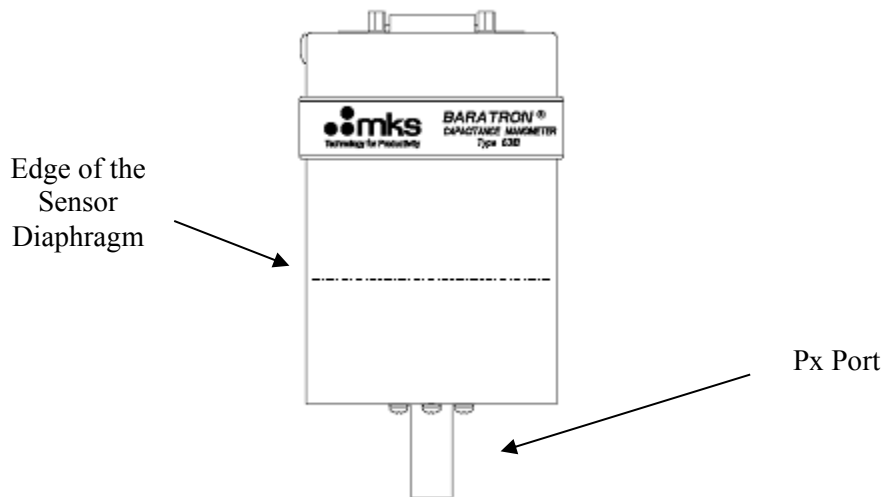

Figure 1: Recommended Orientation of the Type 631C Transducer
- Mount the Type 631C transducer components correctly: refer to Figure 1: Recommended Orientation of the Type 631C Transducer, page 26, for the recommended orientation of the sensor
The 631C transducer can be installed in any orientation as long as the inlet tube is not facing upwards. However, for best results, it is recommended that the Px port of the unit face downward (as shown in Figure 1) to reduce the chance of contaminants entering the device and degrading its performance. The sensor is zeroed at the factory in the vertical orientation (shown in Figure 1). You should zero the unit again after installation, following the steps in *How To Zero the Type 631C Transducer*, page 37.
If you anticipate vibration, orient the plane of the diaphragm *parallel with* the major oscillating axis. The edge of the diaphragm is indicated by the dashed line in Figure 1.